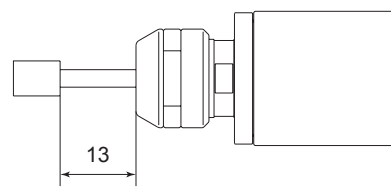

Fig. 23
- ① The proper surface speed for general grindstones is 10 - 30m / s.
- ② Do not exceed 13mm of overhang for mounted grindstones as shown in Fig. 23. If the overhang must exceed 13mm, reduce the motor speed in accordance with Table 4.
- ③ Dress the grindstone prior to use.
- ④ Do not use cutting tools with bent or broken shanks, cracks or excessive run-out.
- ⑤ For grinding, the maximum depth of cut should not exceed 0.01mm radially or axially. Reciprocate the tool several times after each pass to eliminate tool pressure.
- ⑥ Always operate cutting tools within the allowable recommended speed of the cutting tools. Use of a cutting tool outside of the allowable speed of the cutting tools could cause damage to the spindle and injury to the operator.
- ⑦ Keep the cutting tool shank and collet chuck clean. If contaminants are left in the collet chuck or chuck nut, excessive run-out will cause damage to the cutting tool and or spindle.
- ⑧ Do not strike or disassemble the spindle.
- ⑨ Please minimize the tool overhang amount to maintaining high accuracy. 13mm is the maximum amount of overhang to maintain high accuracy and safety.